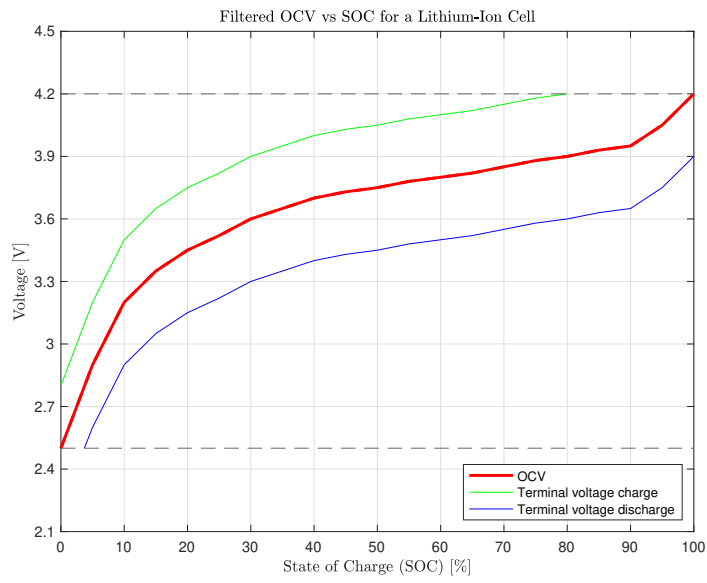

Figure 2.3: Cell potential for charge and discharge with cut-off voltages respected.
- c) See Figure 2.3
- d) In the first case, when only considering the SOC, the cell potential goes beyond the cut-off voltages, and the cell can become overcharged or over-discharged. In the second case, the cell potential stays within the voltage limits, but the full SOC range is not utilized since we are charging and discharging at 1C. The terminal voltage will be reached quicker. Therefore, it is beneficial to start with constant voltage (CV) charging when reaching the cut-off voltage to safely reach the desired SOC range.